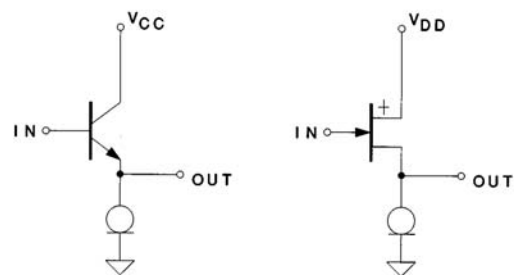

Figure 13. Emitter/Source Follower Load
**Emitter/Source Follower Load**—Using a CLD as an emitter/source follower load increases the input impedance and gain of the circuit (Figure 13) and decreases the transistor dissipation under heavy load conditions.